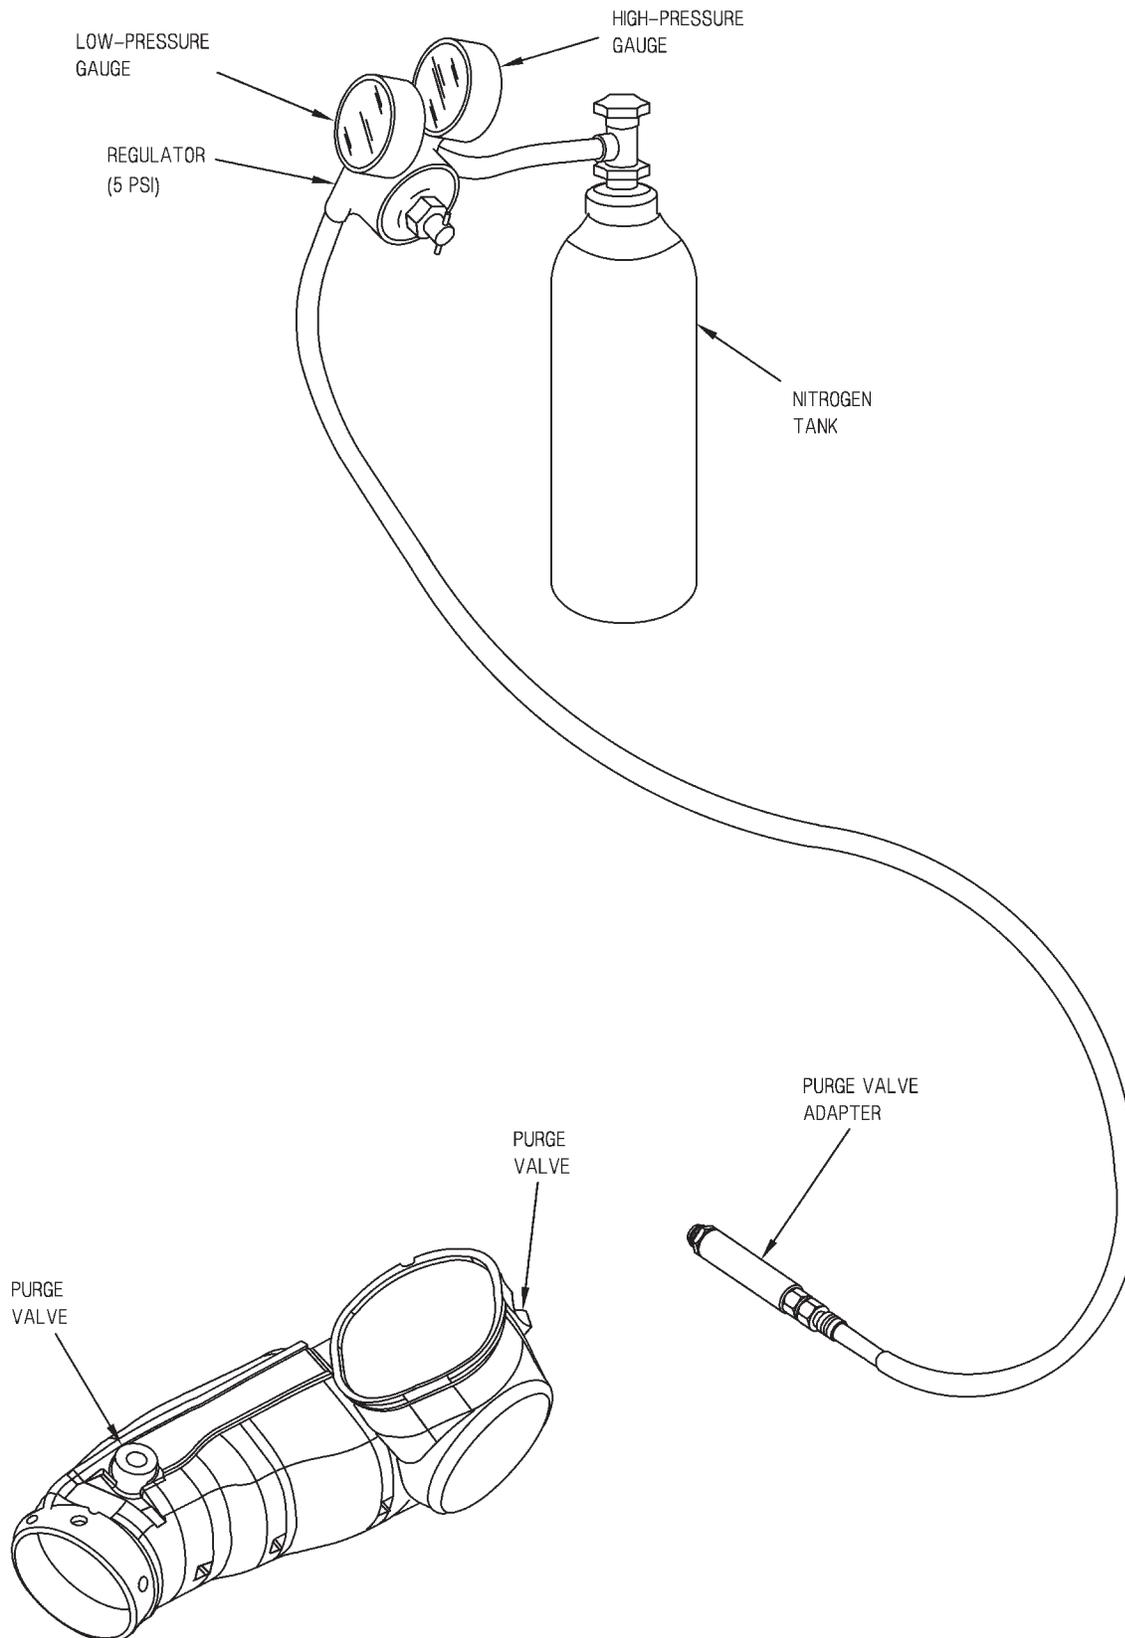

Figure 1. Purging Relay Optics Assembly
o. Using hex flat tip, adapter, and torque screwdriver, tighten purge valve screws (1, sheet 2) until o-ring seal is closed. (QA)
- q. Disconnect pressure regulator from nitrogen tank. Refer to figure 1.
s. Document per OPNAVINST 4790.2 series. (QA)